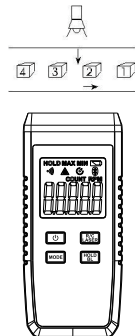

Figure 5
- 2) Fix the optical source to the location at the other side of objects and opposite to the meter.(figure5)